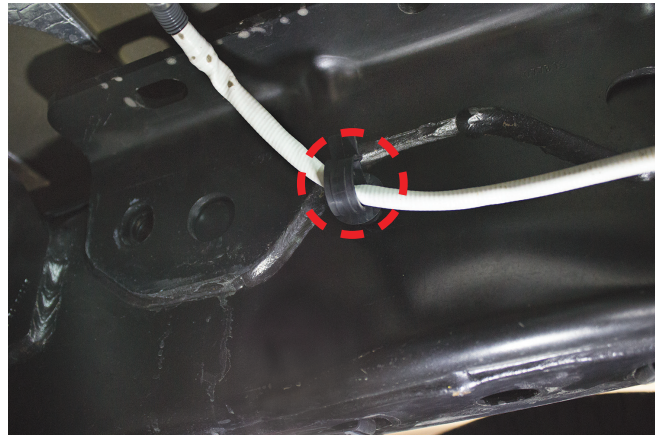

Fig. 26
- To install the passenger's (right) side upper brace (F) locate the clip (red circle Fig. 26) that holds the wiring harness for the O2 sensor. Remove and discard the clip as it will no longer be needed.